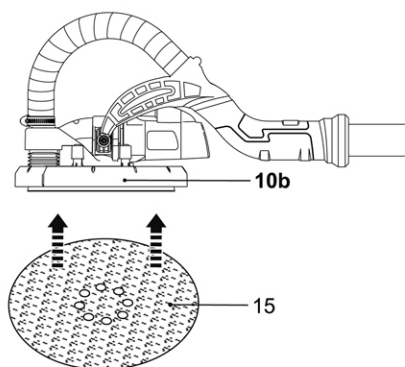

Fig. 5
2. Slightly press the sanding paper **(15)** to fix it to the base plate **(10b)** (Fig. 5).